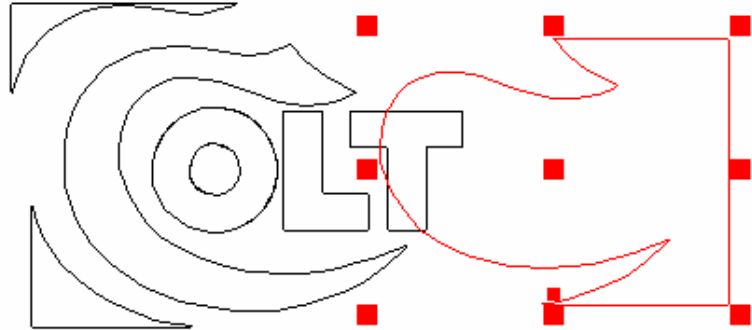

Figure 7-9 Segments of Outside Border Dragged Away
- ... Next, we'll click on each segment of the outside border in turn and drag them away from the rest of the logo. Figure 7-9 shows our job after we've dragged the last border segment away.